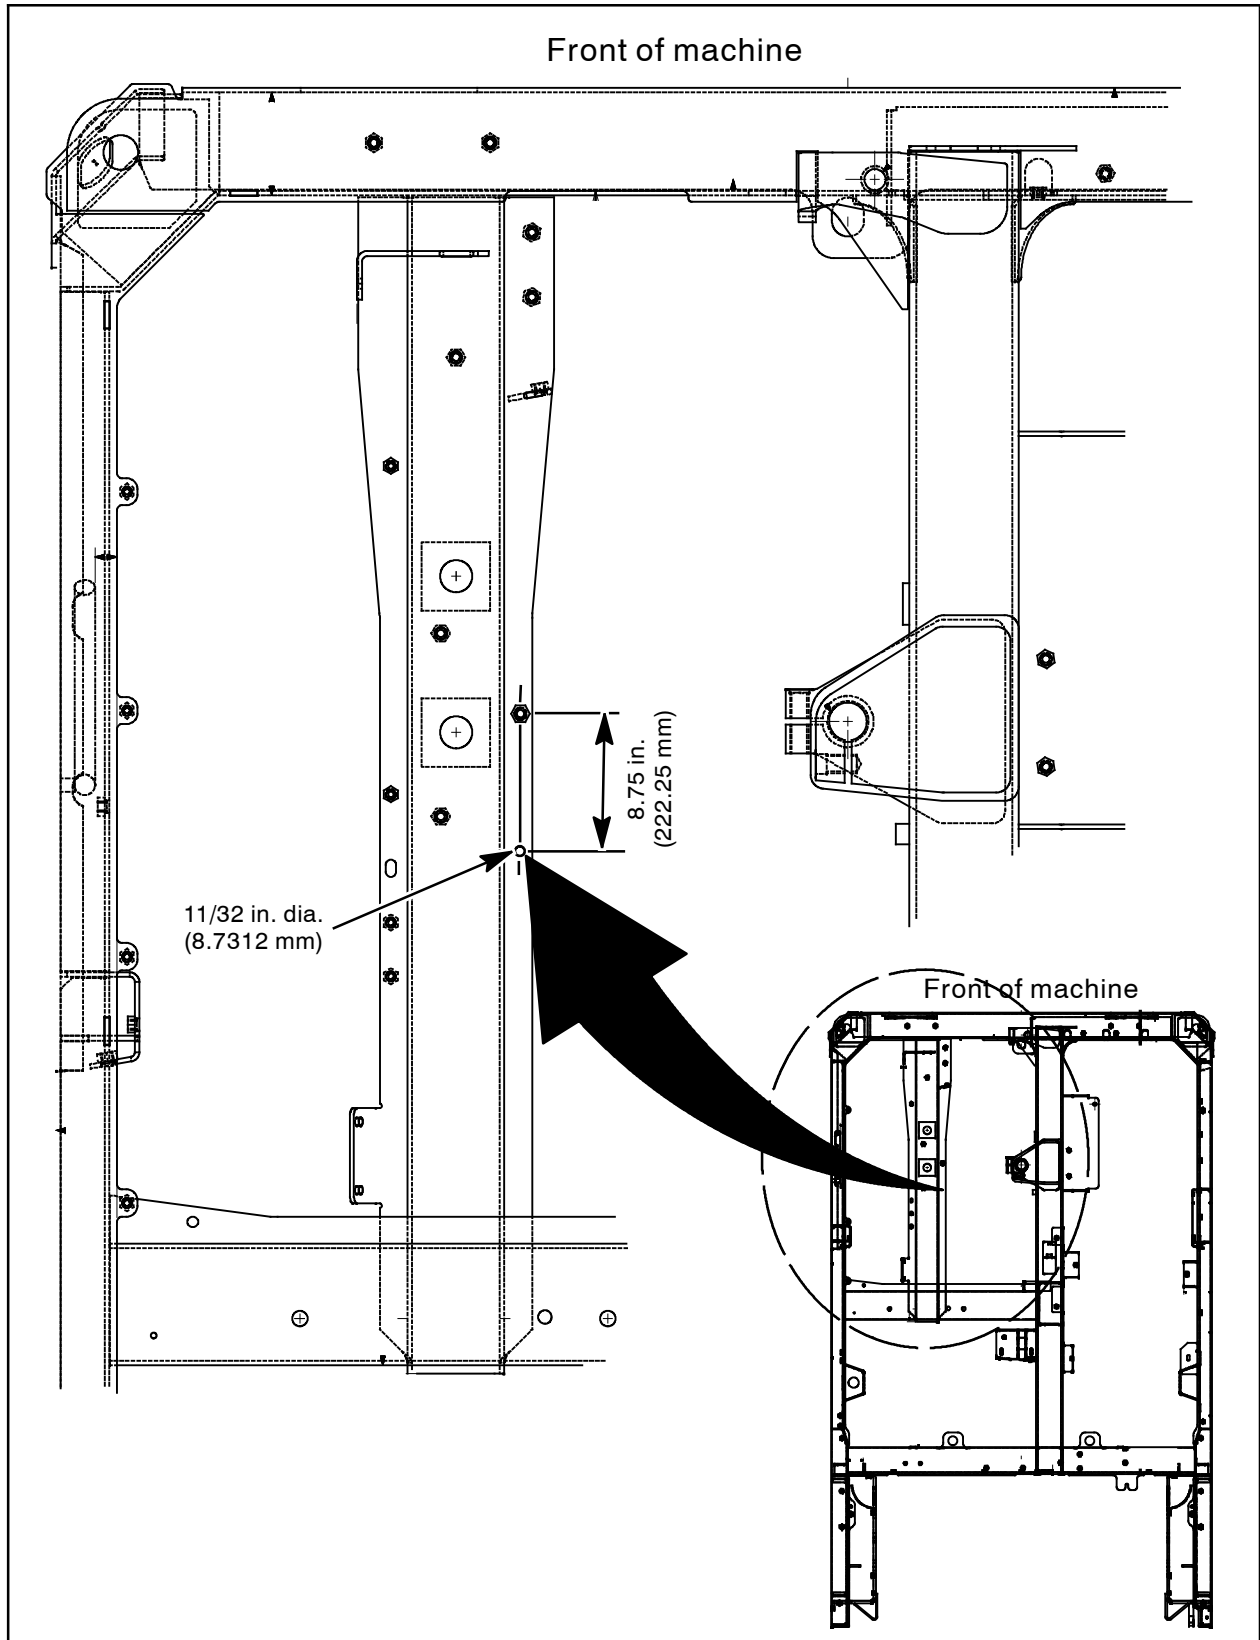

FIG. 3
3. Drill a 11/32 in. (222.25 mm) hole into the frame of the machine. (Fig. 3)